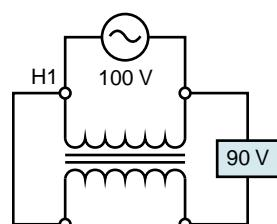

Figure 3-38 Circuit for review question 2.
- A polarity test is being made on the transformer shown in Figure 3-38.